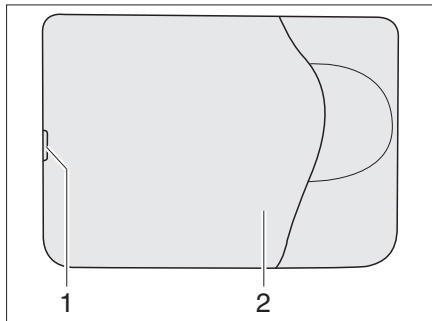

Fig. 105 Room lamp
- Use a suitable tool (e.g. a screwdriver) to carefully lever out the cover (Fig. 105,2) at the notch (Fig. 105,1) and pull it off to the left.